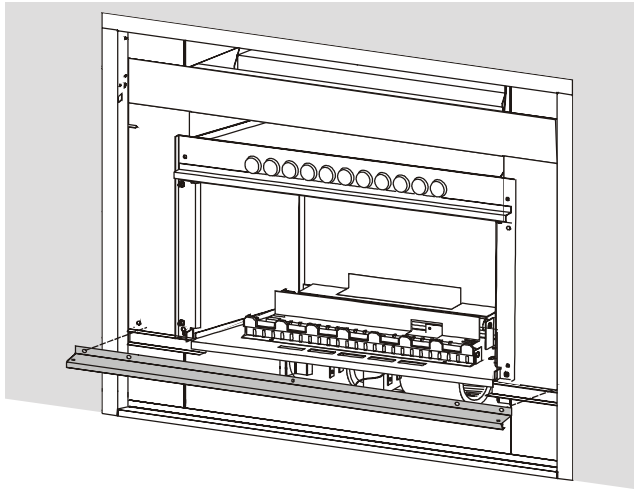

Figure 21. *Installing the new front bar.*
- 12. Install the new front bar as shown in figure 21.